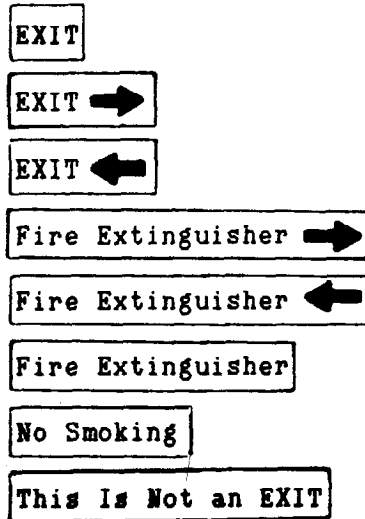

Figure E-2. Fire Safety Signs
b. Placement, size, and color of fire safety signs will be per current fire regulations. The Fire Inspection Office (ATTN: ATZK-EH-FP) has the appropriate signs on hand for issue. See Figure E-2.